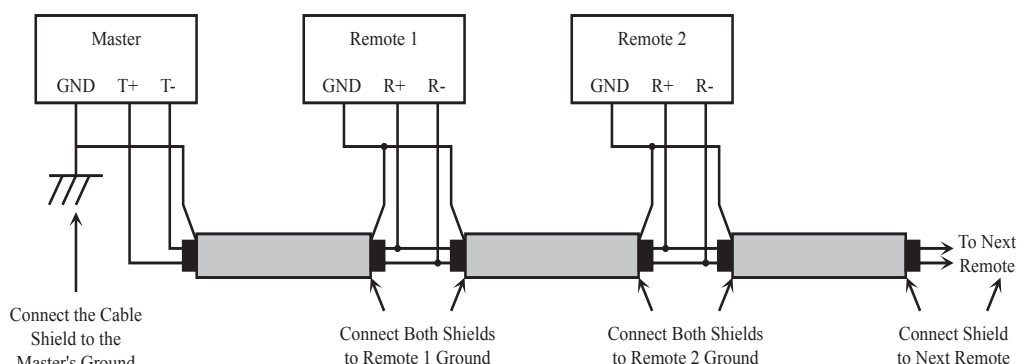

Figure 2-4: Communication Shielding Carrying a Single Ground to Each Unit
- carrying an earth ground to each unit (see figure 2-4 on page 14)
line in the RS-232 port from the host PC system. It should then be carried to one of the ground terminals on the back of each unit in the network. An example of this method of grounding is shown in Figure 2-4.